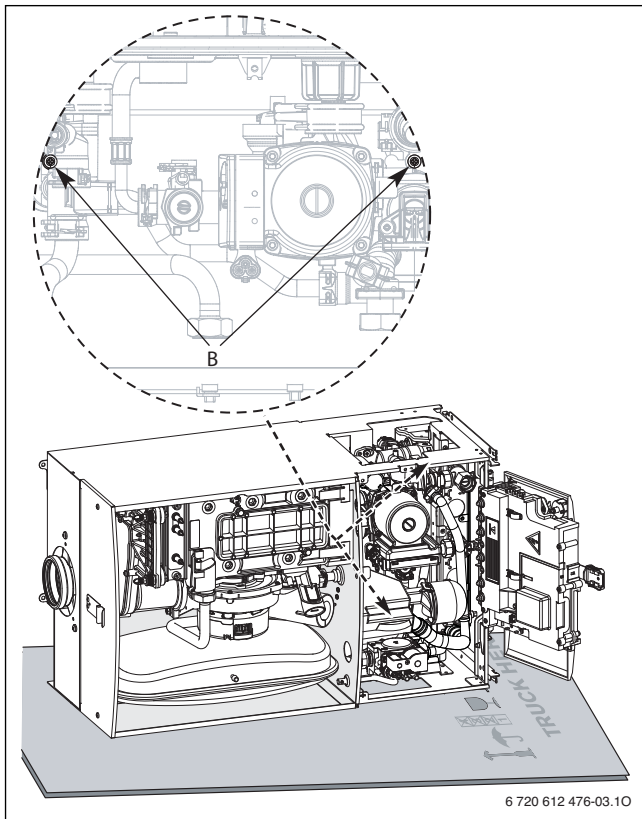

Fig. 3
- ▶ Re-tighten the clamping plate by re-tightening the two screws (B) as shown in Fig. 3.